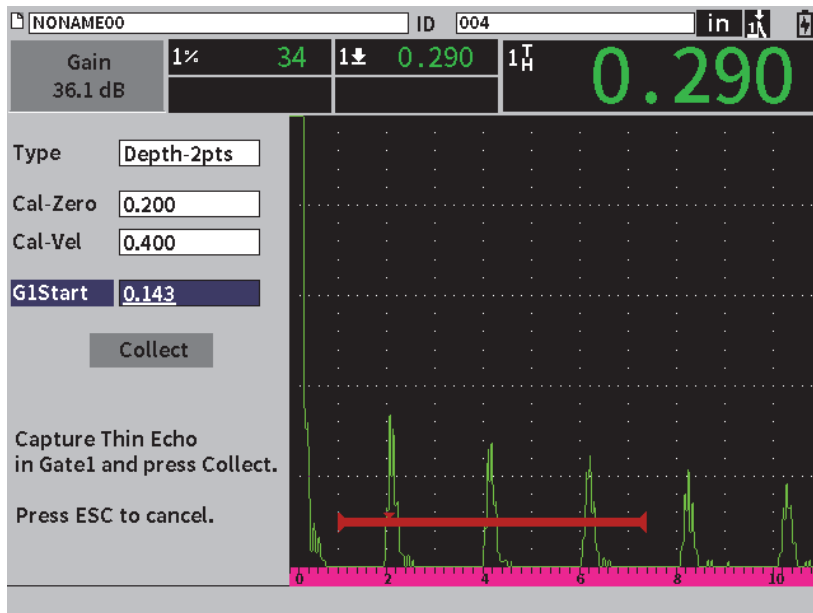

Figure 8-3 Calibration — Dialog box initial setup
3. On the setup menu, select the **Calibrate** icon () to open the calibration dialog box (see Figure 8-3 on page 115).